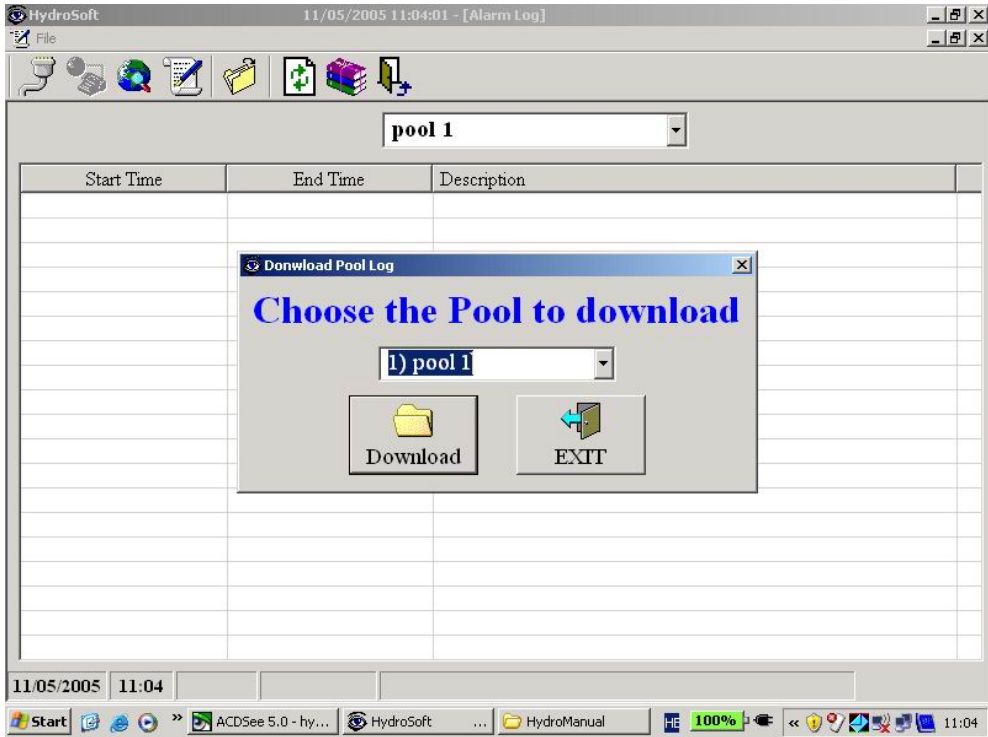

Figure 8: Selecting a Pool to Download History
2. A window will open "Choose Pool to download" (Figure 8)